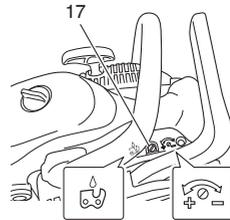

Fig. 12
Turn the adjusting screw (17) counterclockwise to increase the quantity and turn it clockwise to decrease the quantity. (Fig. 12)